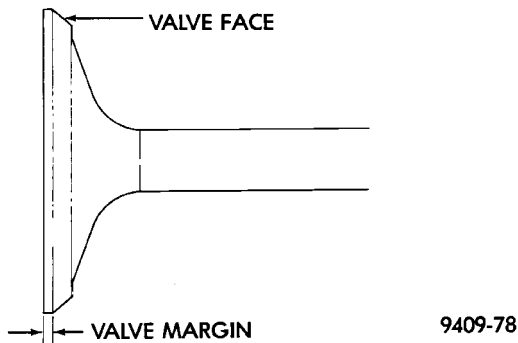

Fig. 95 Refacing Intake and Exhaust Valves
(1) The intake and exhaust valve seats and valve face have a 45 degree angle.
(2) Inspect the remaining margin after the valves are refaced (Fig. 95). Intake valves with less than 0.95 mm (1/32 inch.) margin and Exhaust valves with less than 1.05 mm (3/64 inch) margin should be discarded.